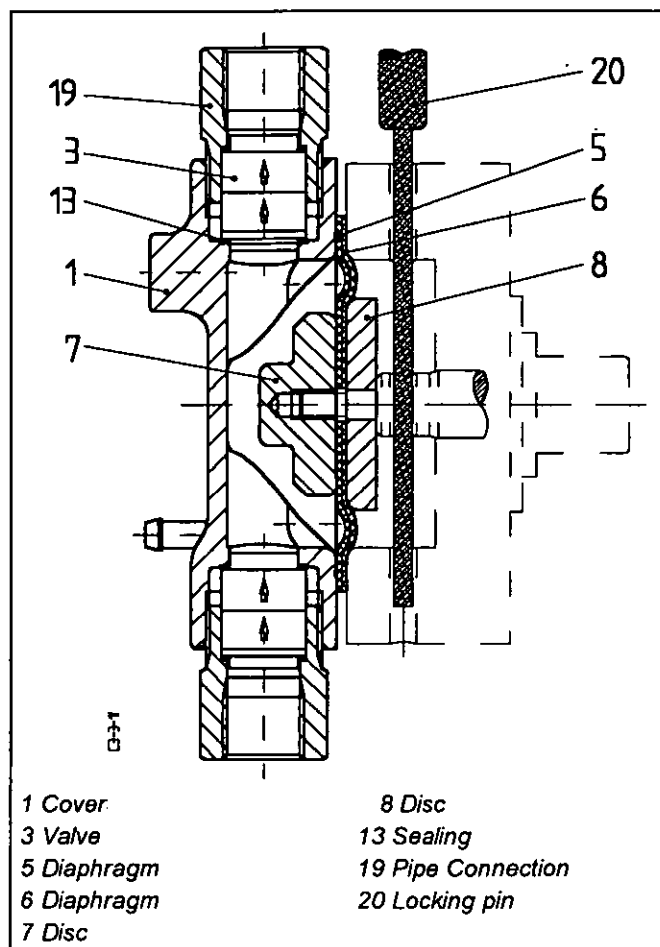
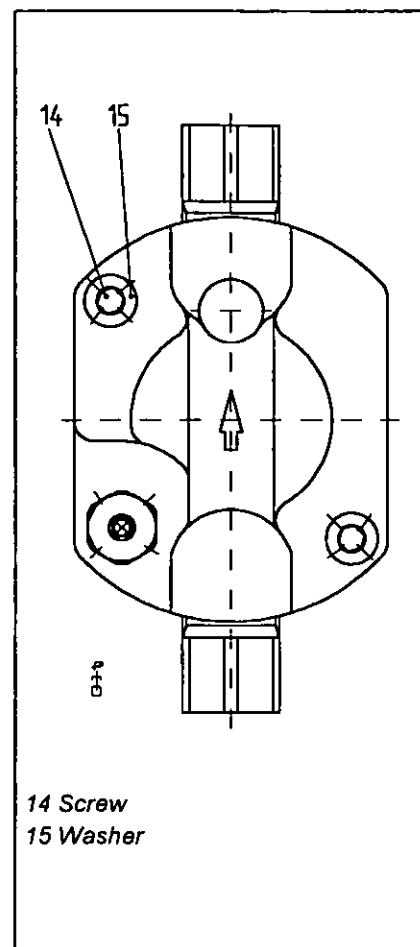

Fig. 3.6: Sectional View
Fig. 3.7: Plan View
The replacement of the diaphragm from the gear models G1 and A1 is shown in Fig. 3.6 and Fig. 3.7.
- Extract the screws (14) uniformly and remove the cover (1).
- To prevent movement of the push rod insert a screw driver or a locking pin through the bores in the yoke and push rod (see Fig. 3.6).
- Dismantle the double diaphragm by unscrewing the disc (7).